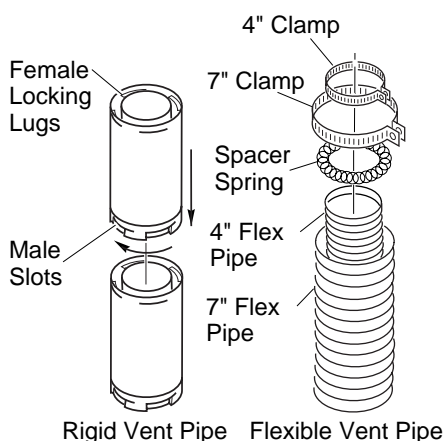

Figure 11 - Vent Pipe Connections
Twist-lock Procedure: The female ends of the pipes and fittings have four locking lugs (indentations). These lugs will slide straight into matching slots on the male ends of adjacent pipes and fittings. (All connections must be sealed with high temperature silicone sealant as specified in the second warning statement on page 7.) Push the pipe sections together and twist one section clockwise approximately one-quarter turn until the sections are fully locked. See Figure 11, page 9. **Note:** Horizontal runs of vent must be supported every three feet. Use wall straps for this purpose.
Flexible vent pipe must be installed with spacer springs every 12". See Figure 11, page 9. All connections must be clamped tightly and sealed with high temperature silicone sealant as specified in the second warning statement on page 7.
2. Assemble the desired lengths of pipe and elbows necessary to reach from the fireplace flue up through the firestop. All connections must be sealed with high temperature silicone sealant as specified in the second warning statement on page 7. Be sure all pipe and elbow connections are fully twist-locked (see Figure 11, page 9).